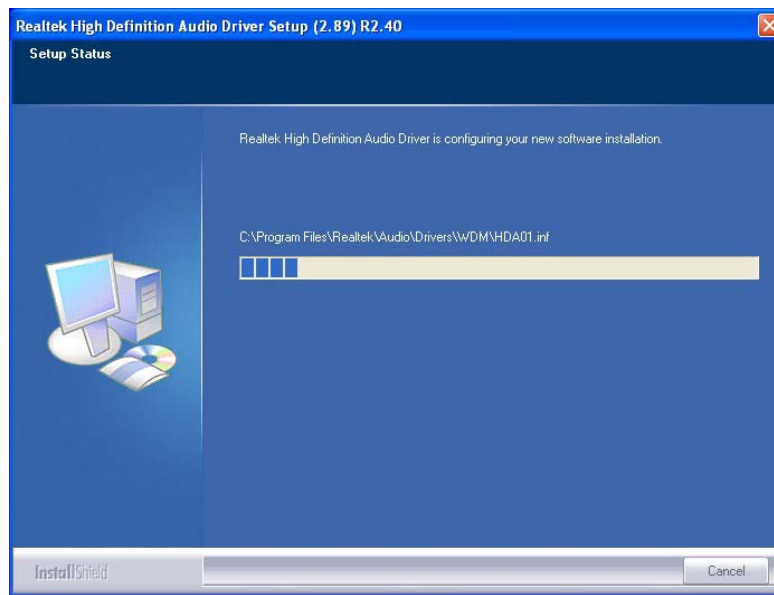

Figure 6-22: Audio Driver Installation
Step 6: The audio driver installation begins. See **Figure 6-22**.